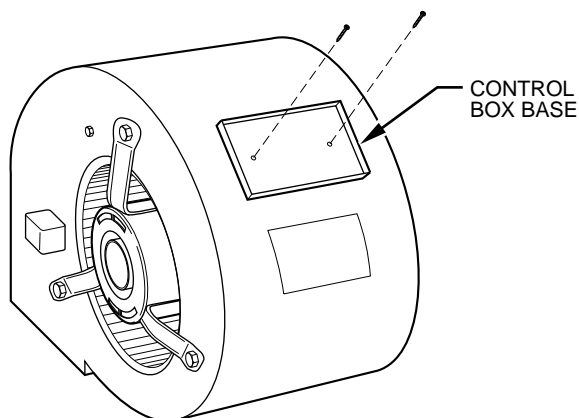

Fig. 1—Installing Control Box Base on Blower Housing
1. Mount control box base on furnace blower casing where male plugs will reach receptacle in furnace control panel using the 2 screws provided in kit. (See Fig. 1.)